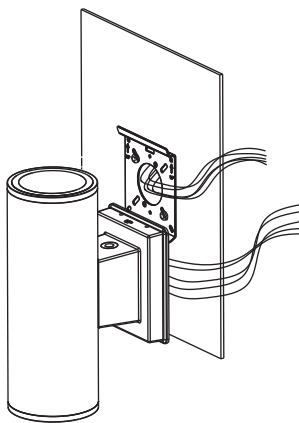

Figure 4
- Hang the fixture on the lower hook of mounting plate in the correct upward direction. (Figure 4)